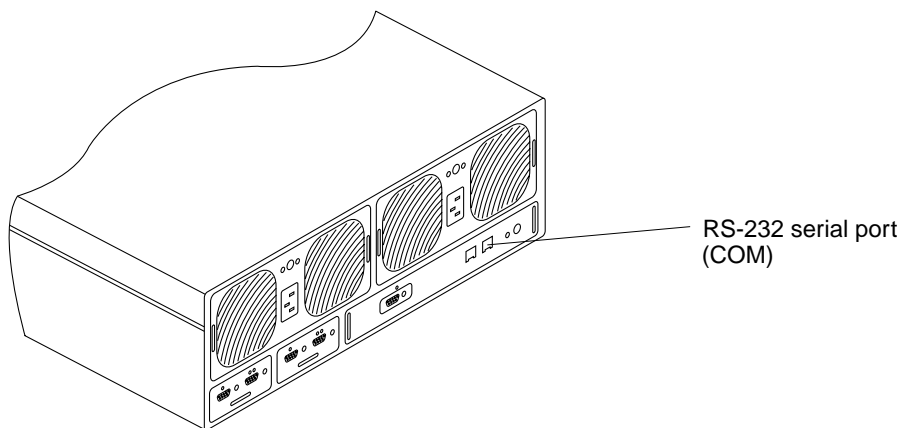

FIGURE 6 Sun StorEdge T3 Array Back Panel
1. Connect a console to the RS-232 serial port (see FIGURE 6) on the back of a Master Controller Unit (MCU).